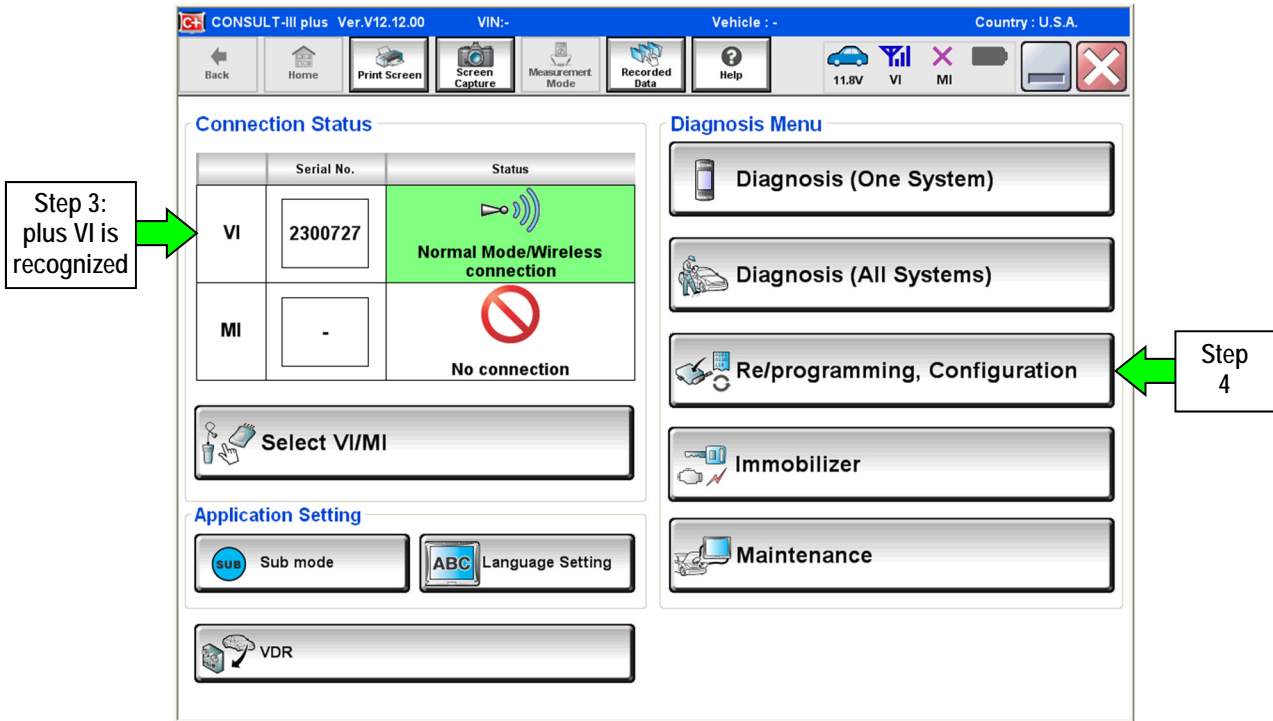

Figure 1
- In this case, the screen in Figure 1 displays.